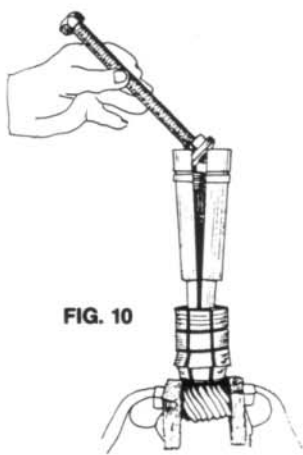

FIG. 10
5. Place the JACK SCREW ASSEMBLY into the SPLIT TUBE and adjust JACK SCREW NUT until the ball end of JACK SCREW touches the top of the transfer shaft. (Fig. 10) Back off one turn.